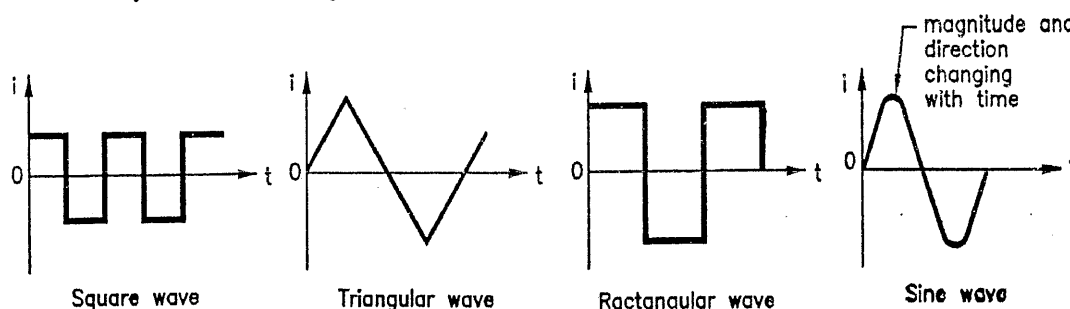

FIG. 2.3 : DIFFERENT TYPES OF WAVE FORMS
- It can be many forms according to the wave form. Some of the wave forms are as shown in Fig. 2.3.